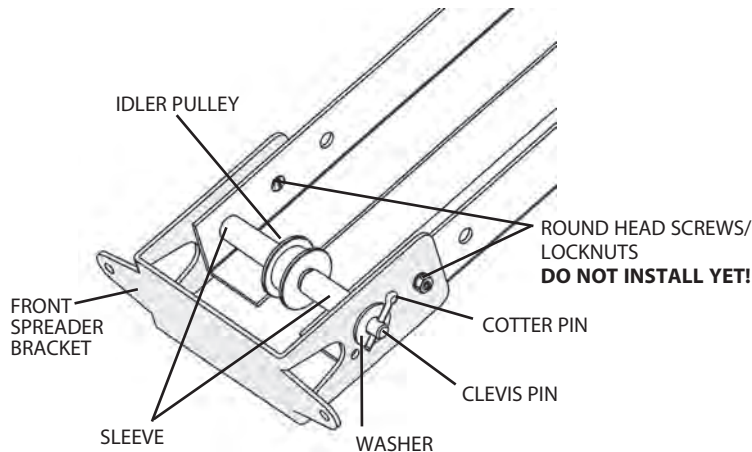

Figure 5
- 5) Install the idler pulley inside the track by inserting the $\frac{3}{8}$ " x $4\frac{1}{2}$ " clevis pin through one side of the track and as you feed it through an idler sleeve and the idler pulley followed by the second sleeve. Place fender washer ($\frac{7}{16}$ " x $1\frac{1}{4}$ ") over end of clevis pin. Secure clevis pin using cotter pin. **Fig. 5.**